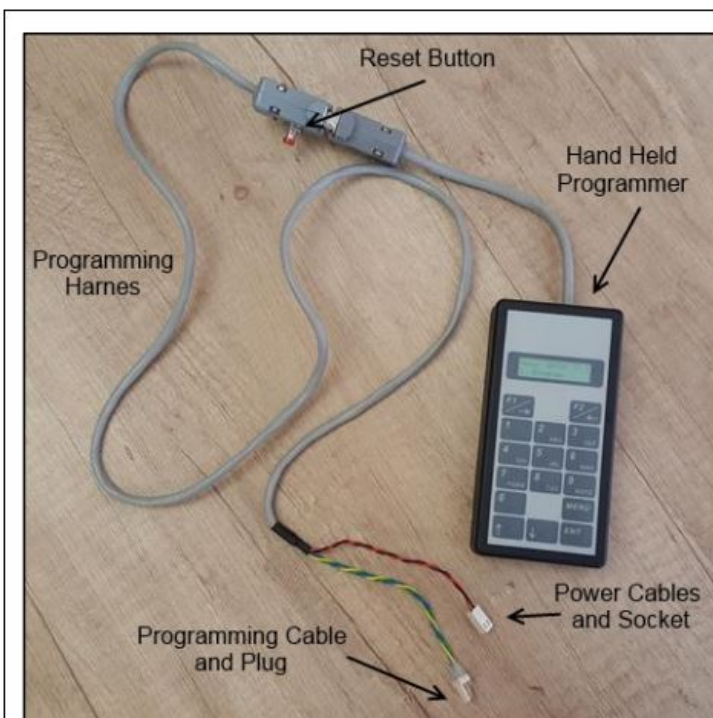

Figure 3: Programmer Setup
- Referring to Figure 3 and 4 above, the HHP will be equipped with an interfacing harness containing 5 wires